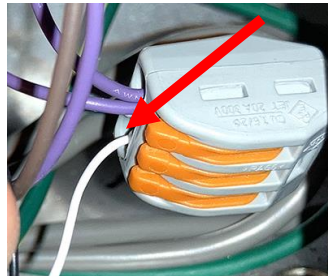

Figure 8
8. Disconnect the white & black wires from the harness in the previous step from the Wago snap connectors (see Figure 8 & 9).